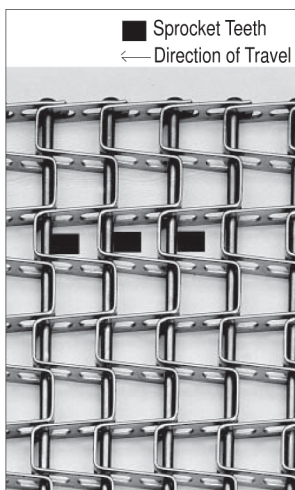

Figure 1
- a. The belt should be placed on the conveyor with proper orientation to the direction of travel (*Figure 1*).